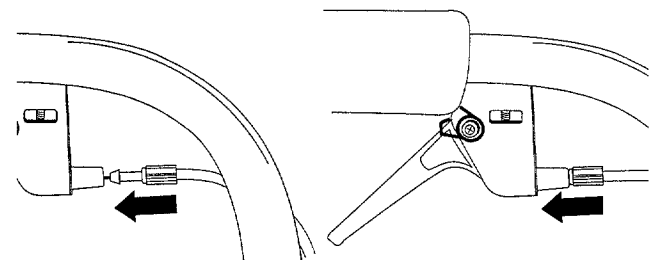

Figure 12
4. Release the throttle trigger and guide the cable up into the slot of the trigger housing. See Figure 12.
5. Push the throttle cable housing into the trigger housing until it snaps into place. See Figure 12.